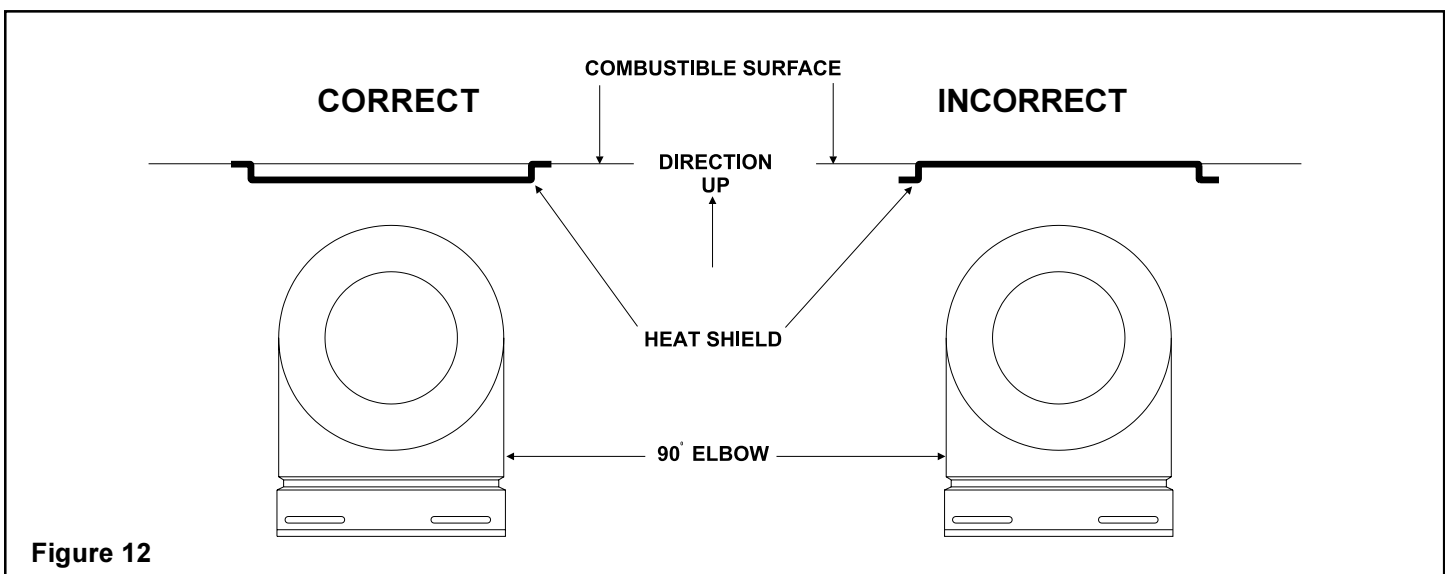

Figure 12
2. Fasten the shield in place using the four pilot holes provided in the part. The shield should be oriented such that the 13 1/8 inch dimension (longest dimension) is running in the same direction the elbow is pointing. The shield should be centered directly above the elbow, and positioned so that it creates a 1/2 inch airspace between the shield and the combustible surface. See Figure 12.
- 90° elbows may be installed and rotated to any point around the preceding component's vertical axis. If an elbow does not end up in a locked position with the preceding component, attach with a minimum of two (2) sheet metal screws.